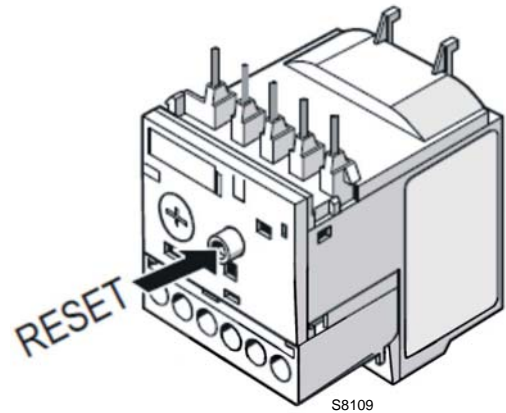

Fig. 26
- To reset, in the case of an intervention of the thermal relay, press the button **"RESET"** (Fig. 26).